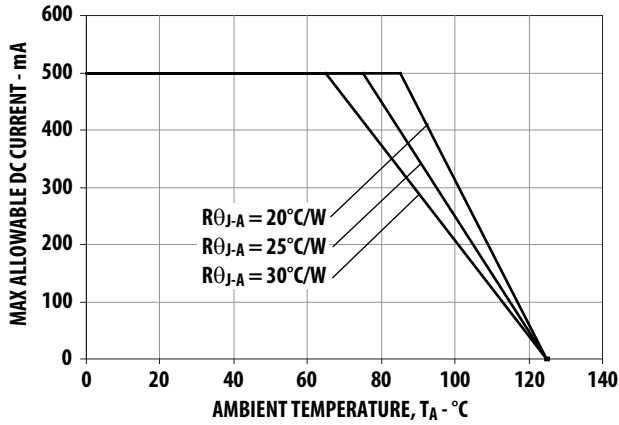

Figure 8. Maximum Forward Current vs. Ambient Temperature.
1. Derate linearly based on Figure 8.